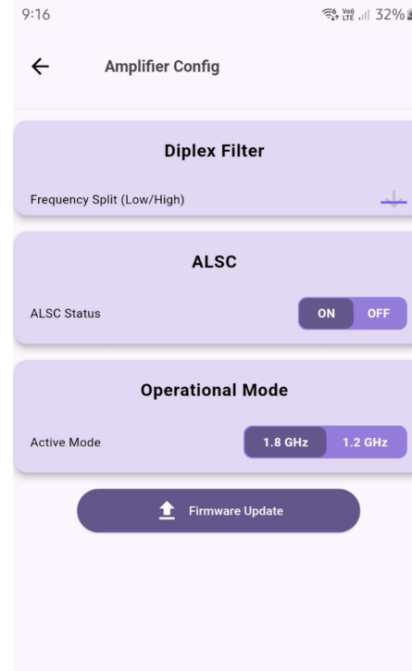

Figure A- 14: Diplex Filter Settings
4. Diplex Filter – Select the new split from the frequency split drop down menu, see Figure A-14.